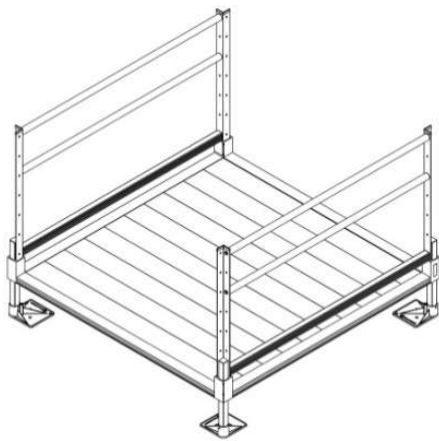

FIG. 2.9
- FIG. 2.9** Low profile platform straight configuration.